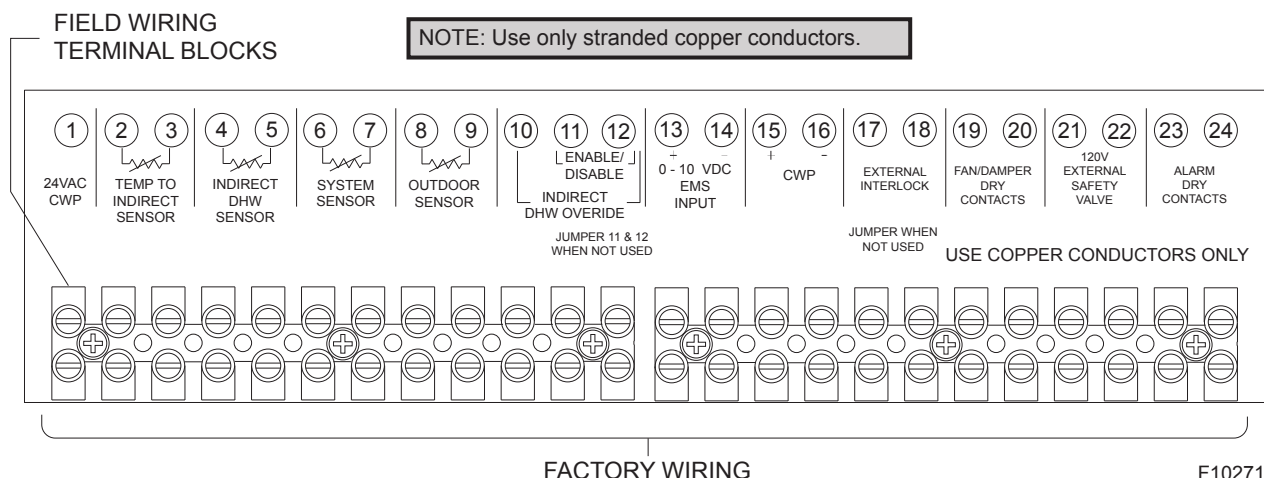

Figure 29. Low Voltage Field Wiring
Connect the Enable/Disable (terminals 11, 12) wiring to the field wiring terminals). See **Figure 29**. Alternately, any dry contact closure (including a remote thermostat) across these terminals will enable the XTherm unit to run. Caution should be used to ensure neither of the terminals becomes connected to ground.
2. Where using a System Sensor (S3), connect the sensor wires to the terminals marked SYSTEM SENSOR. See **Figure 29**.
2. If using an Outdoor Sensor (option B-32), connect the sensor wires to the terminals marked OUTDOOR SENSOR. See **Figure 29**. Caution should be used to ensure neither of these terminals becomes connected to ground.
2. To enable this remote control function, set DIP switch 5 to the UP position on the PIM. DIP switch 5 Toggles between an EMS (UP) signal or a demand signal from the VERSA (DOWN). DIP switch 2 on the PIM toggles between a Direct Drive (UP) input and a Target Temperature (DOWN) setpoint.
4. Connect an Energy Management system or other auxiliary control signal to the terminals marked 0-10V (+/-) on the field wiring terminals. See **Figure 29**. Caution should be used to ensure that the +0-10V connection does not create a short to ground.
3. Connect the system supply sensor to terminals 6 and 7 on the field wiring strip located on the Master boiler. See **Figure 29**.
4. Connect the Outdoor sensor (if used) to terminals 8 and 9 on the field wiring strip located on the Master boiler. See **Figure 29**.
5. Connect the Enable/Disable wiring to terminals 11 and 12 on the field wiring strip located on the Master boiler. See **Figure 29**. This connection must be provided through dry contacts closure.
relay that close during fault or lockout conditions, and the maximum voltage across the contacts is 30 VAC or 30 VDC. See the Field Wiring as shown in **Figure 29**.